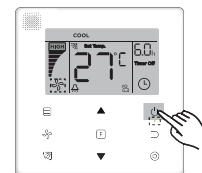

Figure 6.1
- 1) Press (ON/OFF) button, and the Operating Indicator "•" of the indoor unit on the display will light up, while the ON/OFF icon " " of the indoor unit on the display will spin to indicate that the indoor unit has started running. (see Figure 6.1)